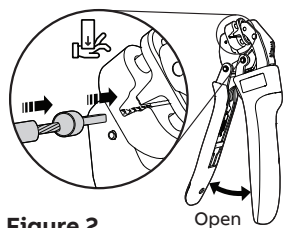

Figure 2
2. Insert stripped wire into ferrule. (Figure 2).